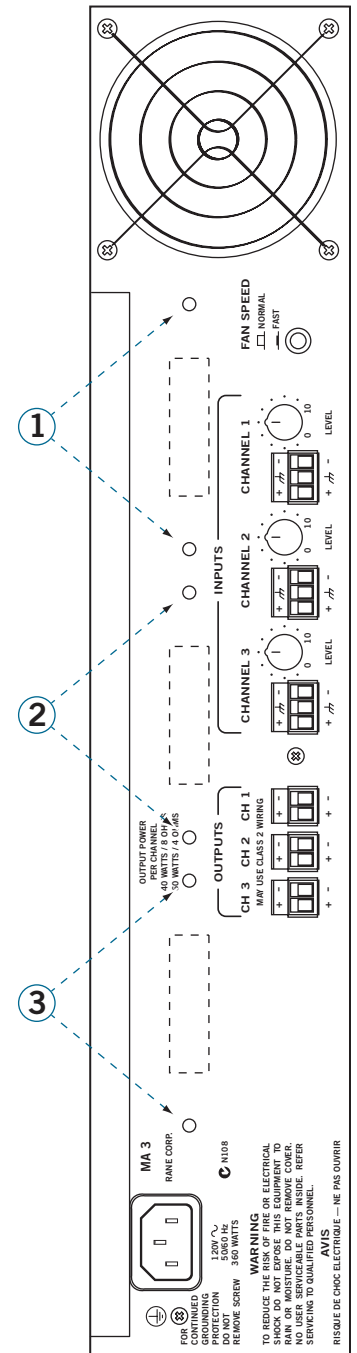

Figure 2. Transformer mounting holes for each channel.
4. Stand the MA 3 up on one end with the power transformer toward the bench (Figure 2).
5. Locate the transformer mounting holes along the rear panel of the MA 3 (Figure 2).
6. Place one of the two supplied #8 screws in the “top” mounting hole of the pair of holes associated with the channel receiving the transformer (Figure 2).